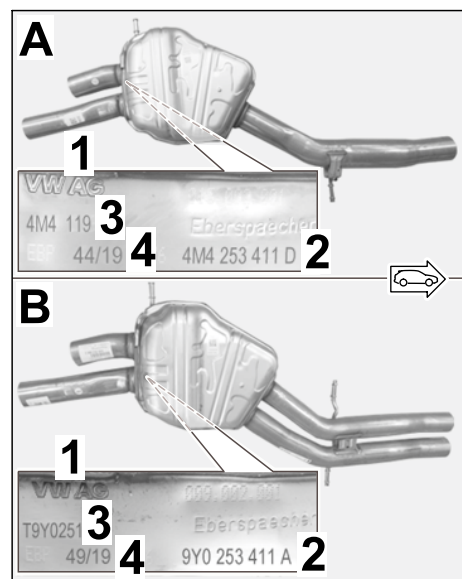

Figure 7
– Center silencer (⇒ *Figure 7*):